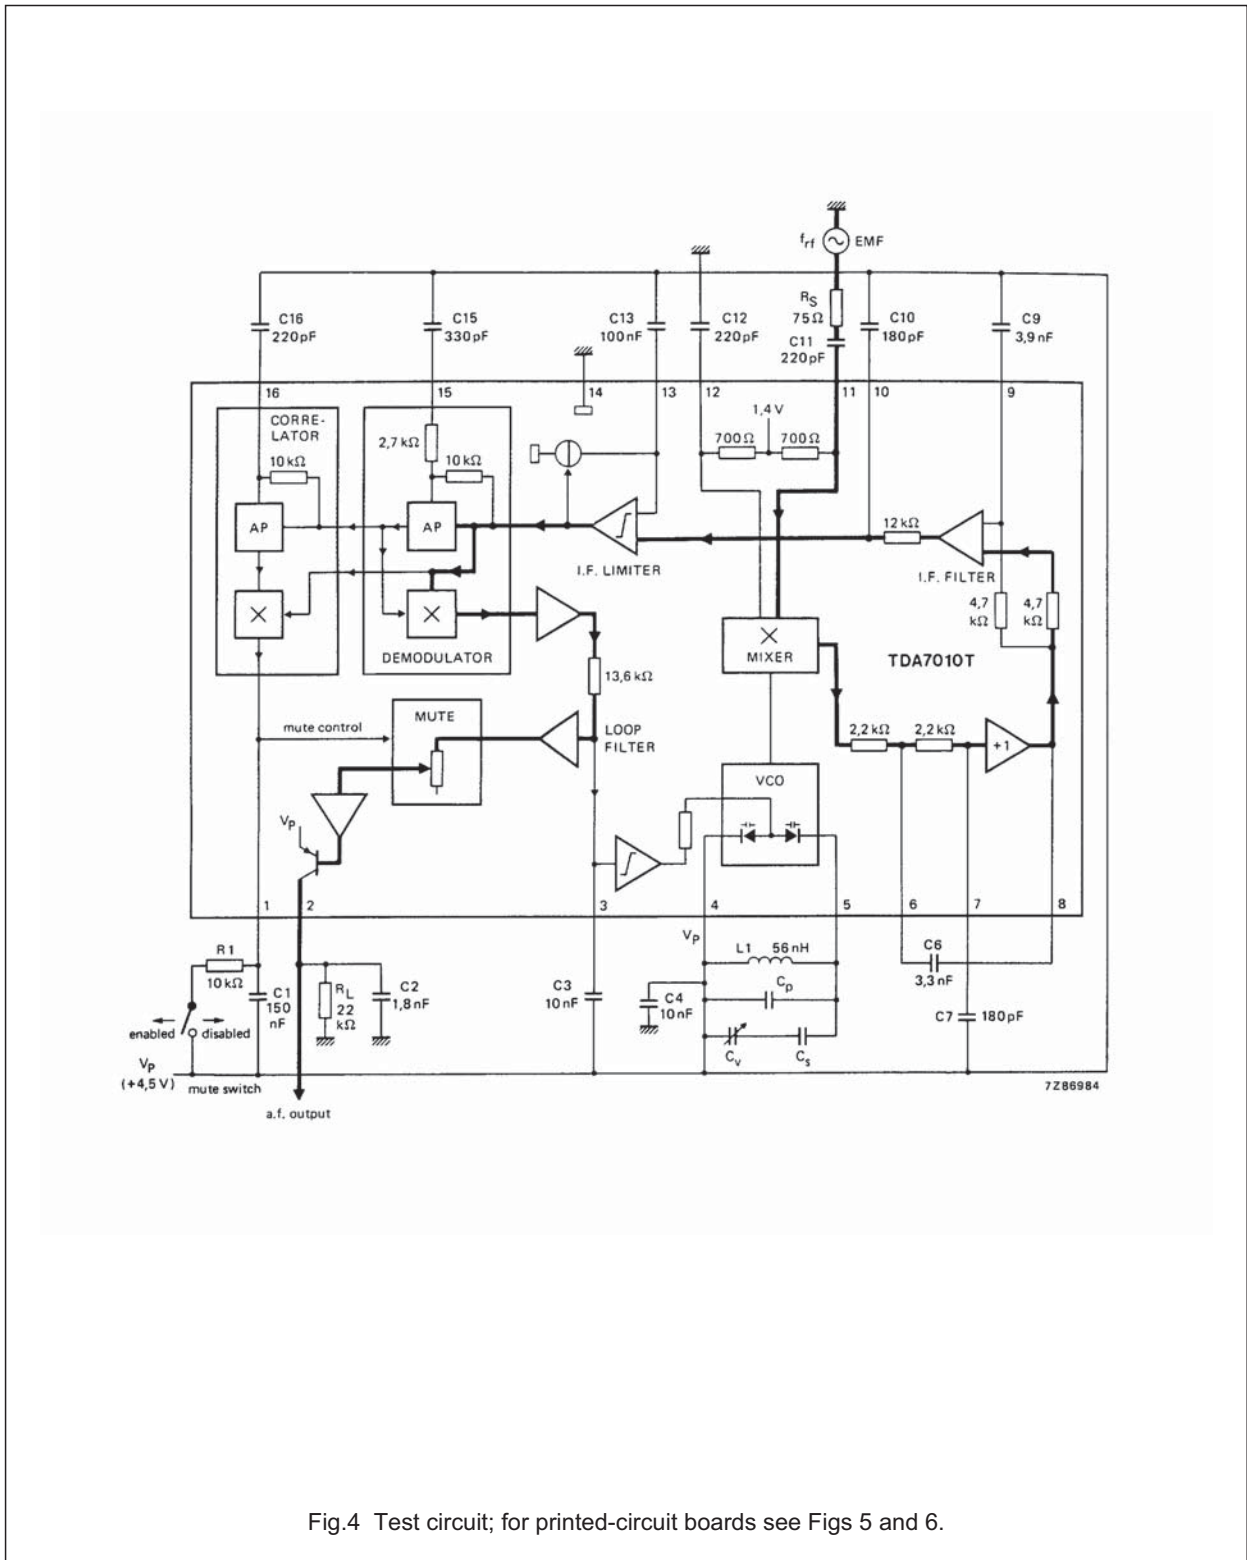

Fig.4 Test circuit; for printed-circuit boards see Figs 5 and 6.
**D.C. CHARACTERISTICS** $V_P = 4,5$  V;  $T_{amb} = 25$  °C; measured in Fig.4; unless otherwise specified
$V_p = 4,5 \text{ V}$ ;  $T_{amb} = 25 \text{ }^\circ\text{C}$ ; measured in Fig.4 (mute switch open, enabled);  $f_{rf} = 96 \text{ MHz}$  (tuned to max. signal at  $5 \text{ } \mu\text{V}$  e.m.f.) modulated with  $\Delta f = \pm 22,5 \text{ kHz}$ ;  $f_m = 1 \text{ kHz}$ ;  $EMF = 0,2 \text{ mV}$  (e.m.f. voltage at a source impedance of  $75 \text{ } \Omega$ ); r.m.s. noise voltage measured unweighted ( $f = 300 \text{ Hz}$  to  $20 \text{ kHz}$ ); unless otherwise specified.